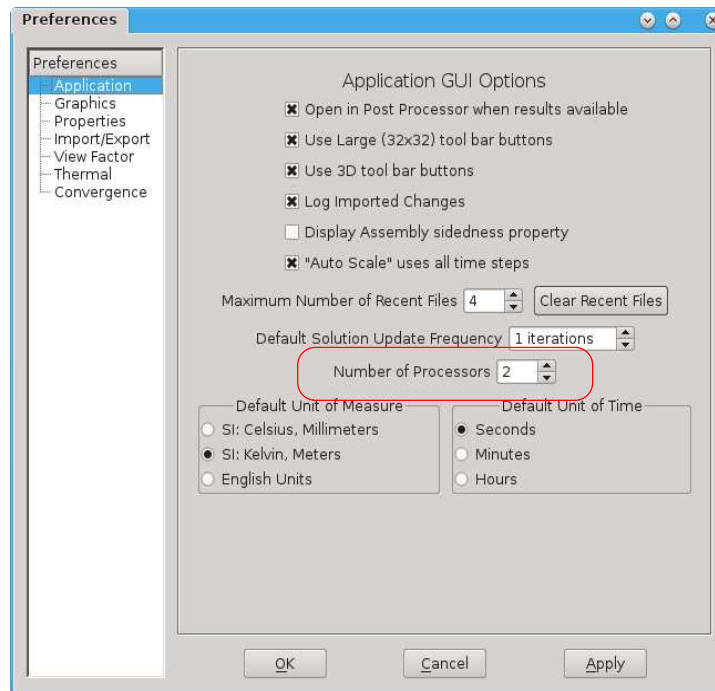

Figure 7: Number of processors setting in TAITherm GUI v11.0.
- Edit → Preferences → Application for older release than TAITherm 11.2 Figure 7